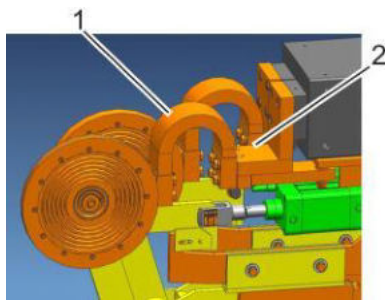

Fig. 78: Secondary connections of the welding transformer
3. Unscrew the copper angle (Fig. 78/2) from the welding transformer and check the contact surfaces.
4. Unscrew current supply (Fig. 78/1) from copper angle (Fig. 78/2) and check contact surfaces.
5. Disconnect current supply (Fig. 78/1) from water-cooled current supply and check contact surfaces.
6. Connect current supply (Fig. 78/1) to water-cooled current supply.
7. Screw the current supply to the copper angle (Fig. 78/2).
8. Screw copper angle (Fig. 78/2) to the welding transformer.